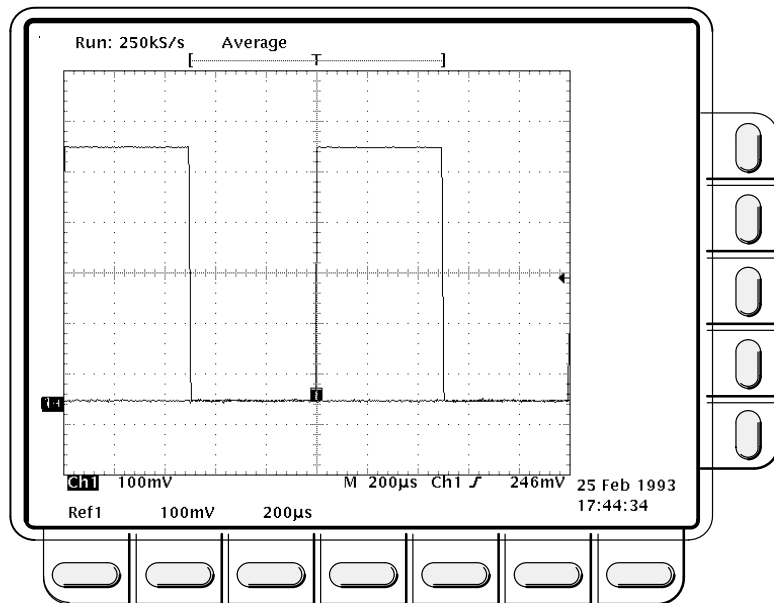

Figure 1-26: Measurement of Probe Compensator Amplitude
- d. Press **CLEAR MENU** to remove the menus from the display. See Figure 1-26.